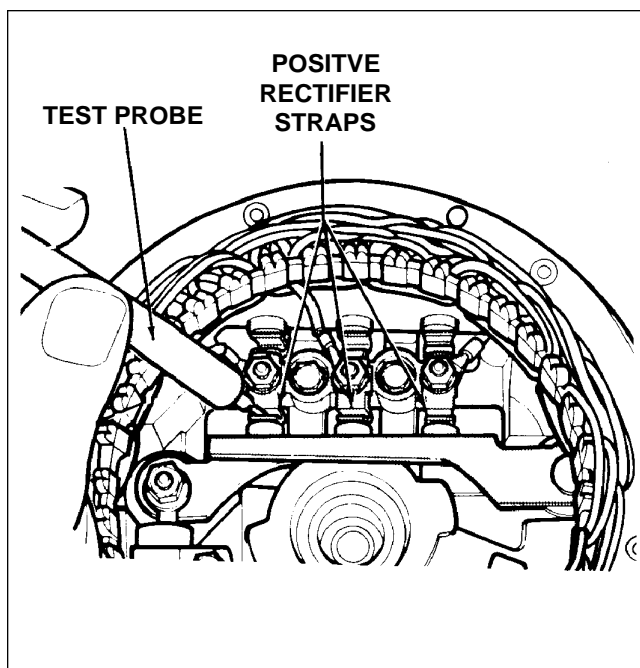

Figure 24-20. Testing Chrysler Alternators
a. Testing Of *Positive* Rectifiers Using C-3829 Tester (Refer to figure 24-20.)
- (1) Place rectifier end shield and stator assembly on an insulated surface.
- (2) Plug tester C-3829 power source lead into 110-volt ac power supply.
- (3) Connect test lead alligator clip of tester C-3829 to alternator output terminal.
- (4) Touch metal strap of each positive rectifier to test probe.